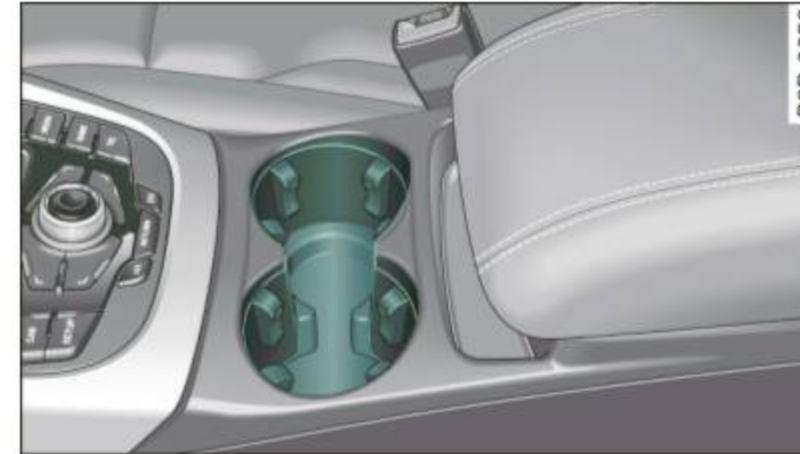

Fig. 91 Center console: Front cupholders
- You can accommodate two beverages in this storage ⇒ fig. 91.